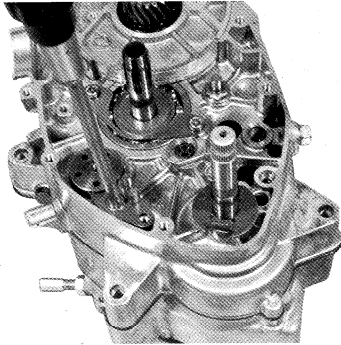

Fig. 5-4-22
21. Loosen the gear shifting cam stopper spring holder bolt with 10 mm wrench, and then remove the gear shifting cam guide by loosening the cross head screw with a driver. (Fig. 5-4-22)